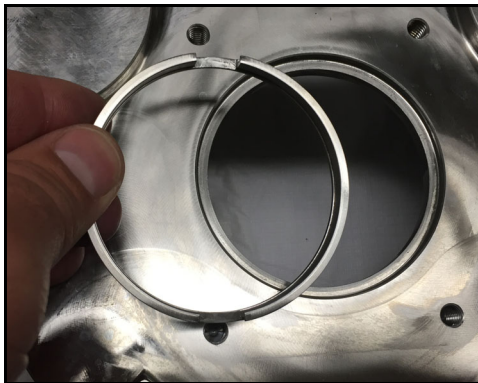

Figure 54 - Install shaft ring
2. Install the shaft ring with the notch openings facing toward you as shown in Figure 54.